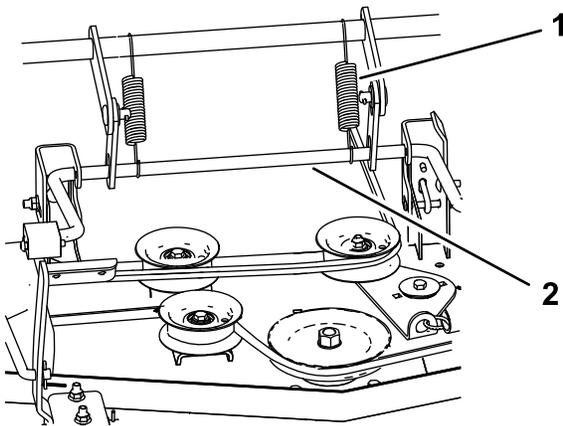

Figure 70
6. For 60-inch decks, install the 2 deck-lift springs (Figure 70).